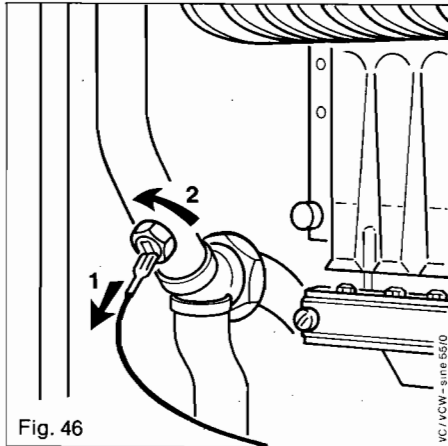

Fig. 46
14.4 Change of NTC resistor (Fig. 46)